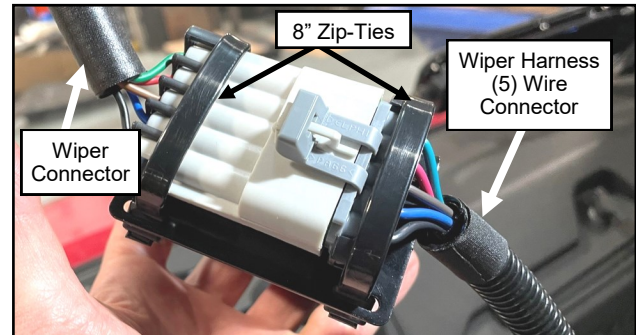

Fig. 1.10 (Zip-Tie 5-pin Connectors to Top of Bracket)
- 1.10 Per figure 1.10, connect the (2) 5-pin connectors found on the wiper motor and Wire Harness w/o Relay. Zip-tie the connectors to the top of the Rocker Switch bracket.